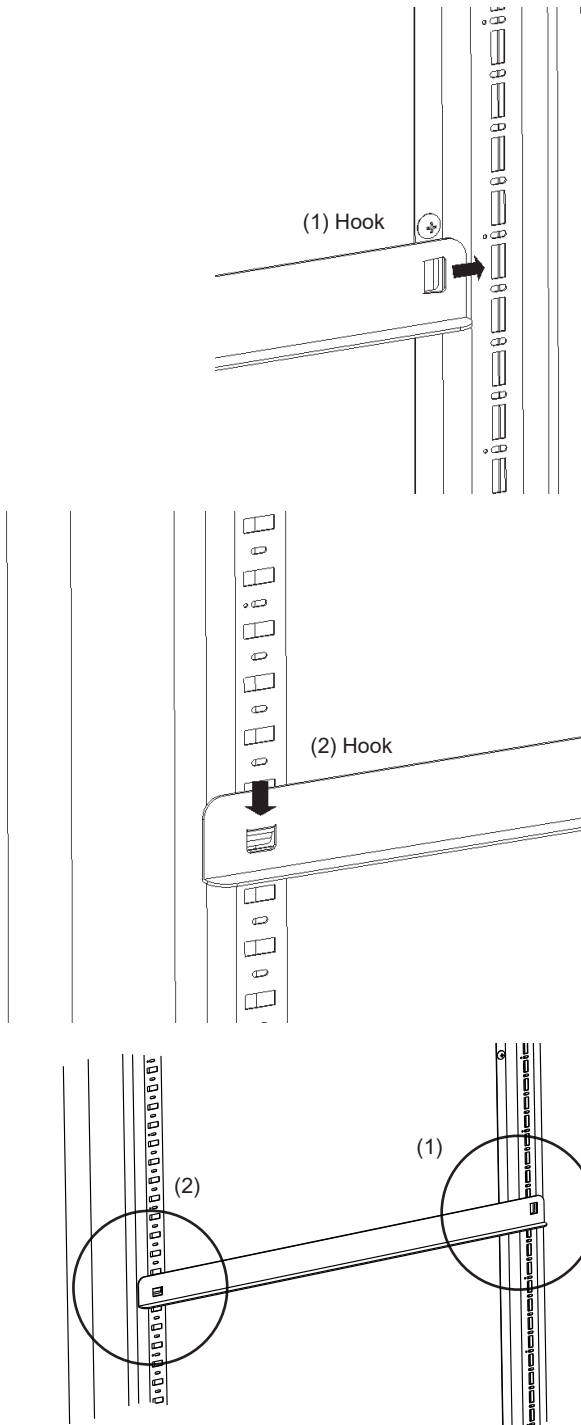

Fig. 9
* To attach the rail, (1) push the rail hook backwards to fit into the square hole in the rear shelf post, and (2) push the rail hook down to fit into the square hole in the front shelf post. To detach the rail, reverse the above procedure. See Fig. 9.